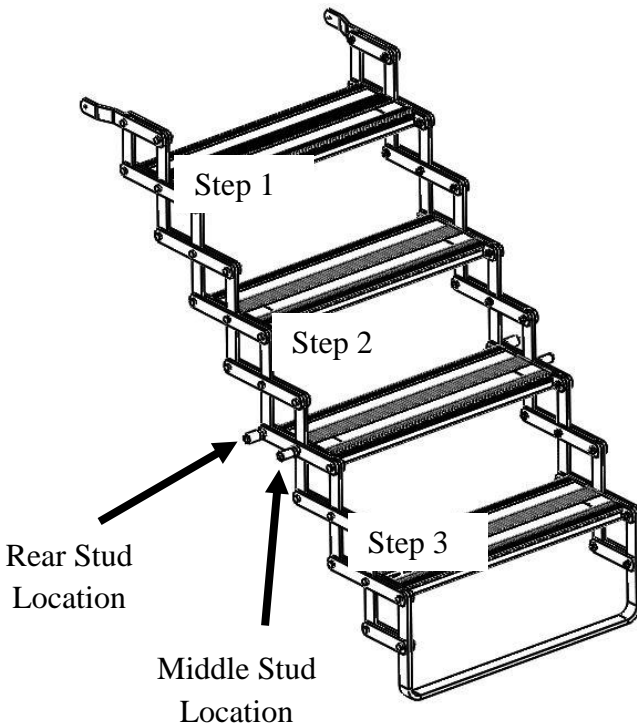
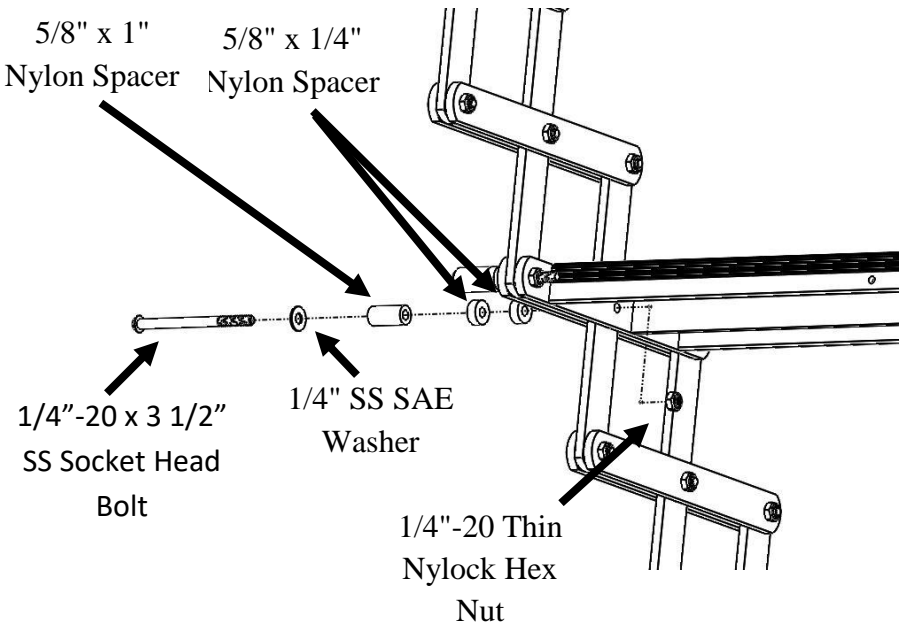

Figure 4.1
Figure 5.1
- Remove the rear 1/4"-20x1-1/16" bolt from the third step as shown in *Figure 4.1*.
- Remove the middle 1/4"-20x1-1/16" bolt from the third step as shown in *Figure 4.1* and *Figure 5.1*.